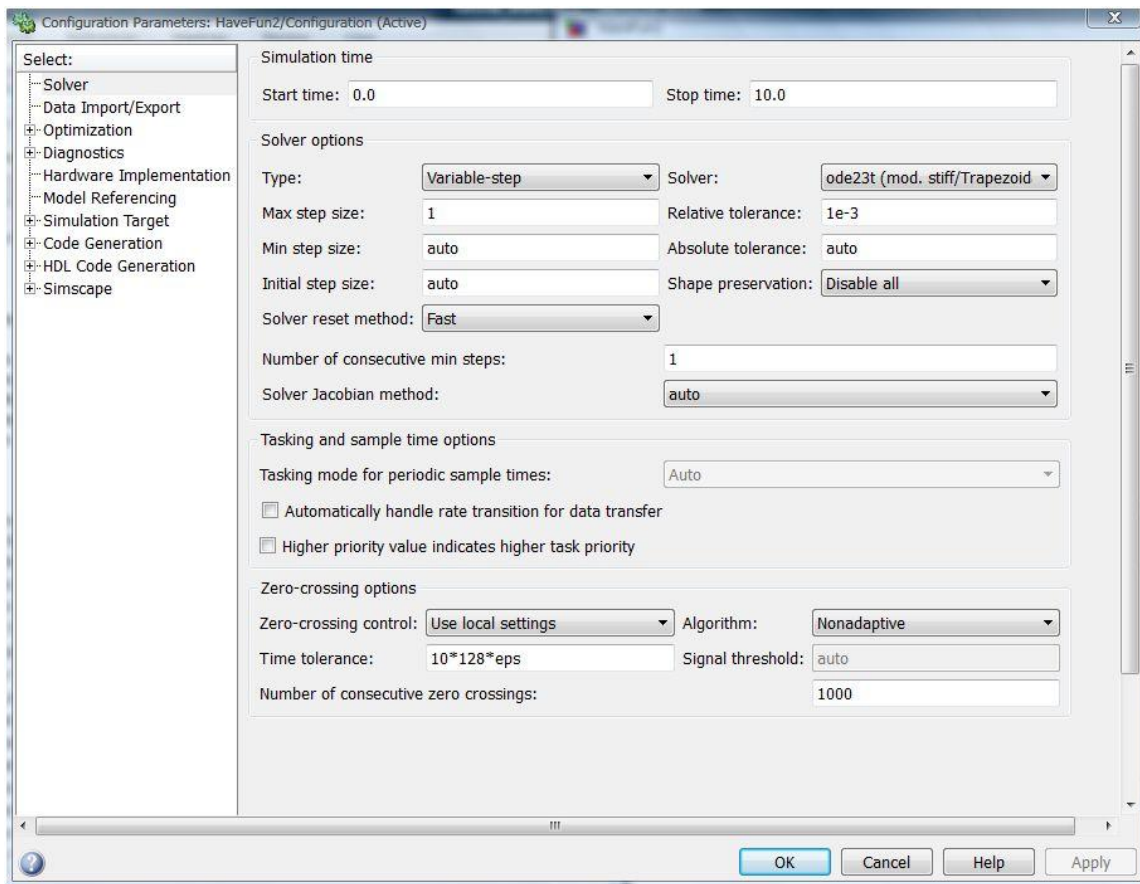

Figure 7: Configuration Parameters for the voltage divider model
Change the resistor values and voltage source by double clicking on the block and typing the desired value. **Change the configuration parameters as shown in Figure 7 shown below.**
- Press OK button after you have changed the fields as shown in Figure 7.